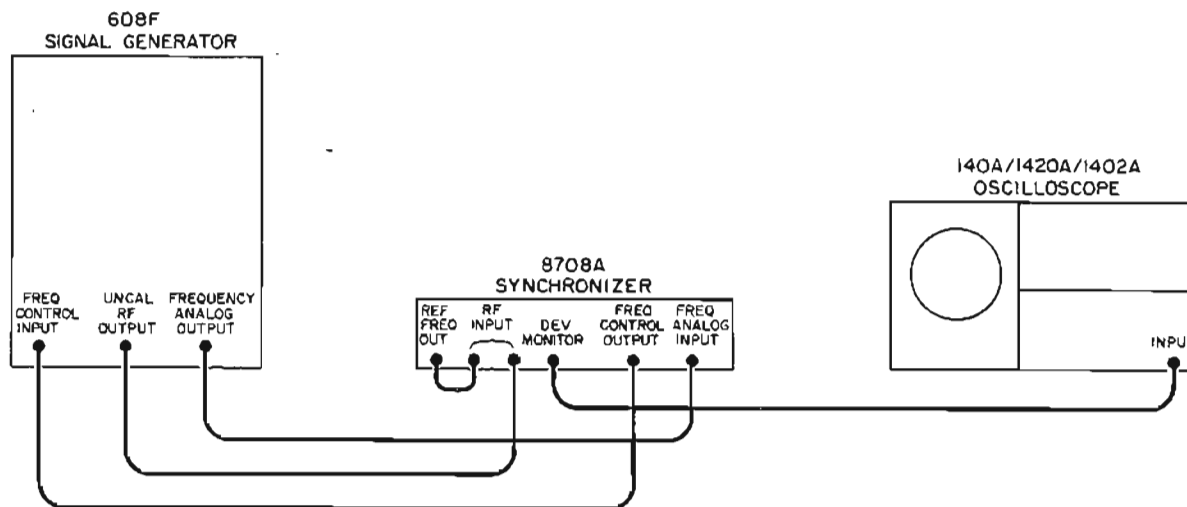

Figure 5-12. Synchronization Test Setup
- Connect signal generator in test setup illustrated in Figure 5-12.